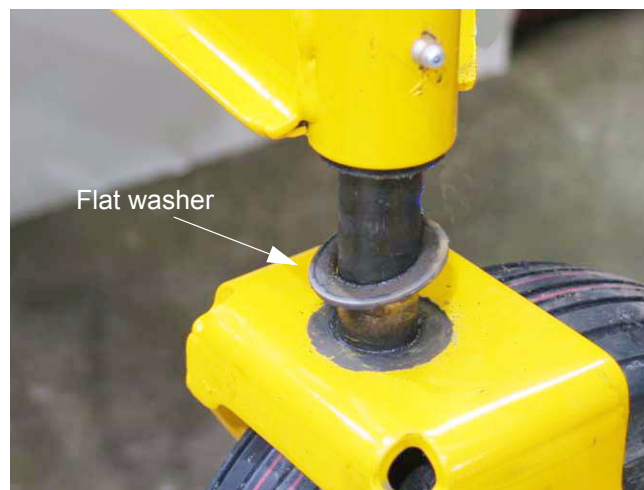

Figure 8.7
- 8.7. Inspect flange bearing on top and bottom of pivot axle. Replace if damaged. See Figure 8.7.